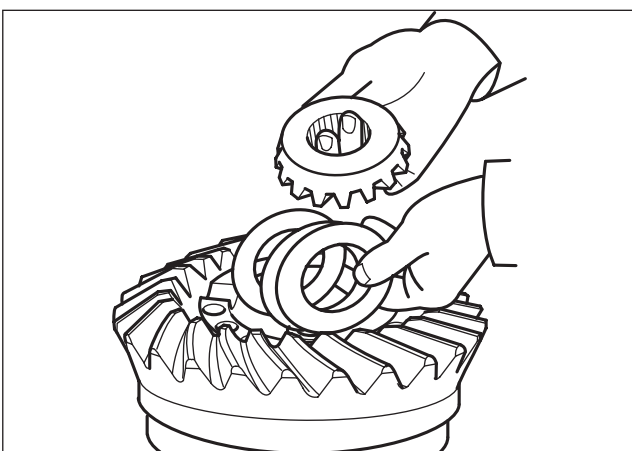

Fig. 2.35
6. Remove the opposite differential side gear and three thrust washers. (Fig.2.35)